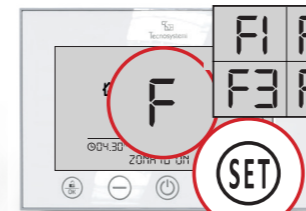

Fig.14
5.6 UI Fan speed (only if the system features the IR communication protocol and the IR remote control is active). With the chrono master unlocked, enter setting mode, and use the key to view the abbreviation F in the centre of the LCD and confirm with the key to display FA (Automatic Fan, system default setting). Use the and keys to set the speeds F1-F2-F3-FA to define the fan speed of the Ducted Unit F1-F2-F3. Fixed fan speed (Fig. 14).